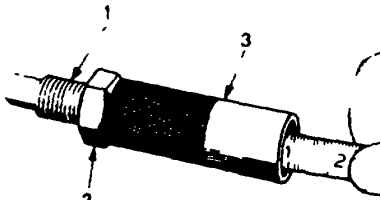

Figure 36. Adjusting Valve Guide Installer for Proper Height
12. Adjust valve guide installer tool SE-1943 (Figure 36) for specified valve guide height above cylinder head. (See SPECIFICATIONS). Tool is designed to install both intake and exhaust guides.